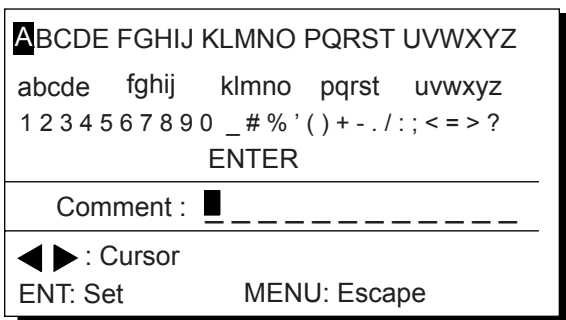

Figure 4-5 Screen for entry
8) Press the **NU/CU ENT** key. The display shown in Figure 4-5 appears.